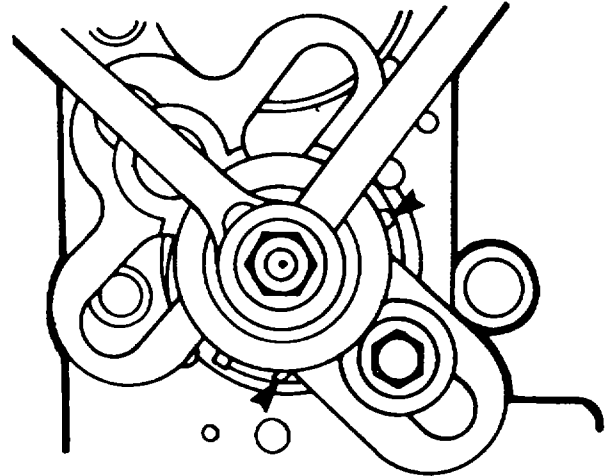

Figure 5-65. Centering Refacing Device
3. Center refacing device by means of the centering fingers (arrows) and fasten (figure 5-65).